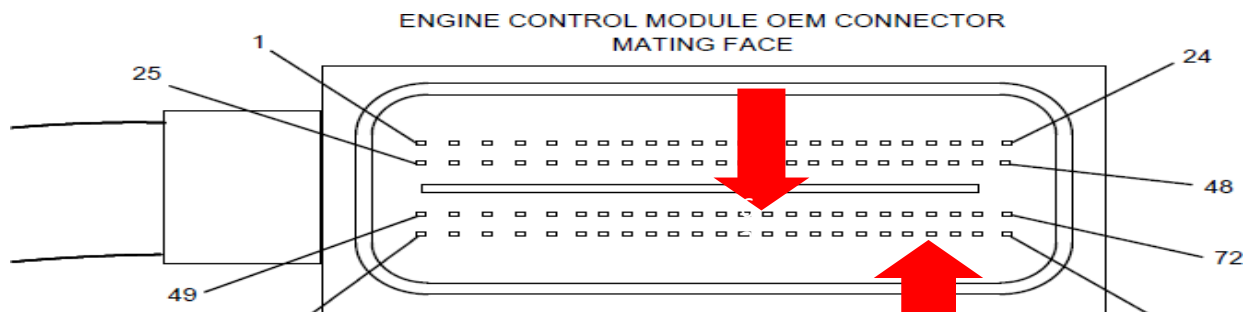

Figure 27 Cummins J2 OEM Connector
- Locate Cavity 93 in the Cummins ECM J2 Connector, Reference Figure 27. Remove the seal plug from the J2 Connector.